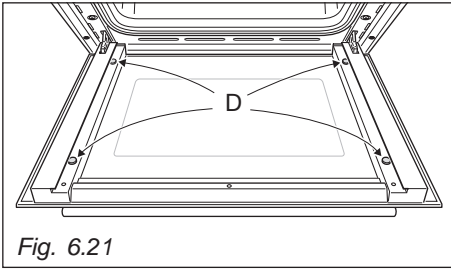
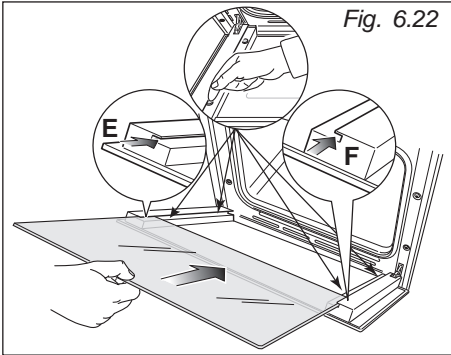
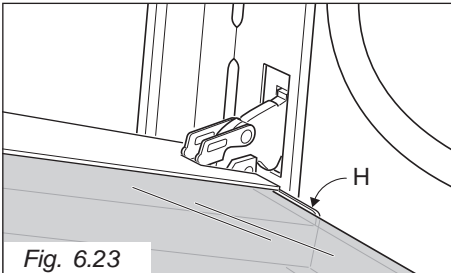

Fig. 6.21
Fig. 6.22
Fig. 6.23
IMPORTANT: It is advisable, while removing the glass, to keep pressed in position the four rubber pads “D” (fig. 6.22), by a finger, to avoid breakage or slippage of the rubber pads themselves.
- Check that the four rubber pads are in place ("D" in fig. 6.21). **IMPORTANT:** It is advisable, while refitting the glass, to keep pressed in position the four rubber pads "D", by a finger, to avoid breakage or slippage of the rubber pads themselves (fig. 6.22).
- Insert the inner pane in the left "E" and right "F" side guides (fig. 6.22) and gently let it slide up to the retainers "H" (fig. 6.23).
- IMPORTANT:** It is advisable, while removing the glass, to keep pressed in position the four rubber pads "D" (fig. 6.22), by a finger, to avoid breakage or slippage of the rubber pads themselves.